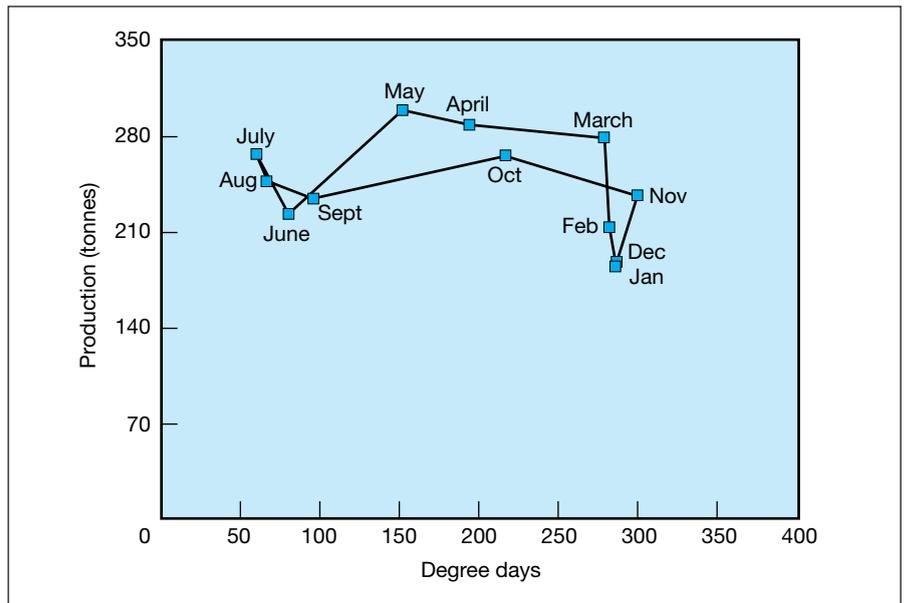

Fig 11 Production vs. degree days showing how to decide which variable to use first
2. Plot a graph of variable1 against variable2, connecting the points in time series order (Fig 11). This is simply to check out the data. Note two things:
Fig 11 (page 46) shows production vs. degree days. Degree days from January into summer fall and then rise again. There is a slight pattern here, in that the spring seems to have had higher production than the rest of the year, but it otherwise only indicates that degree days vary between about 50 and 300 - a span of  $300/50 = 6$ , while production has a span of  $300/180 = 1.66$ . Start by looking at the effect of degree days.